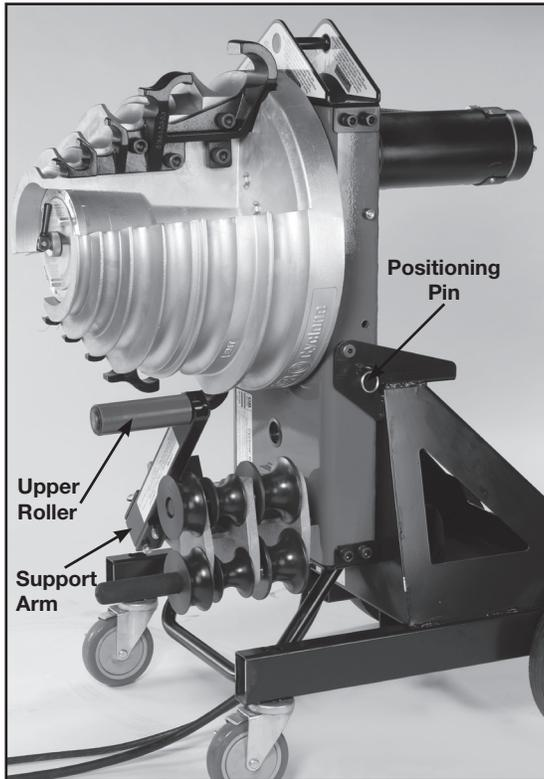

Figure 2. Vertical Position
- To avoid possible injury, do not place fingers under the bottom edge of the bending shoe. See Figure 2.
1. Position the bender in a level dry area large enough to permit loading and unloading various lengths of conduit. Position the frame, either horizontally or vertically, by pulling the spring loaded pin on the side of the bender frame. See Figure 2.
4. Push the roller housing against the frame stop. See Figure 2. Rotate the shoe to bring the required grooves (EMT, IMC or Rigid) facing toward the operator. To activate the shoe, hold the pendant toggle switch in "Return" and press the jog button until the zero light goes out. The shoe will rotate and stop in the load position. The zero light will come on.